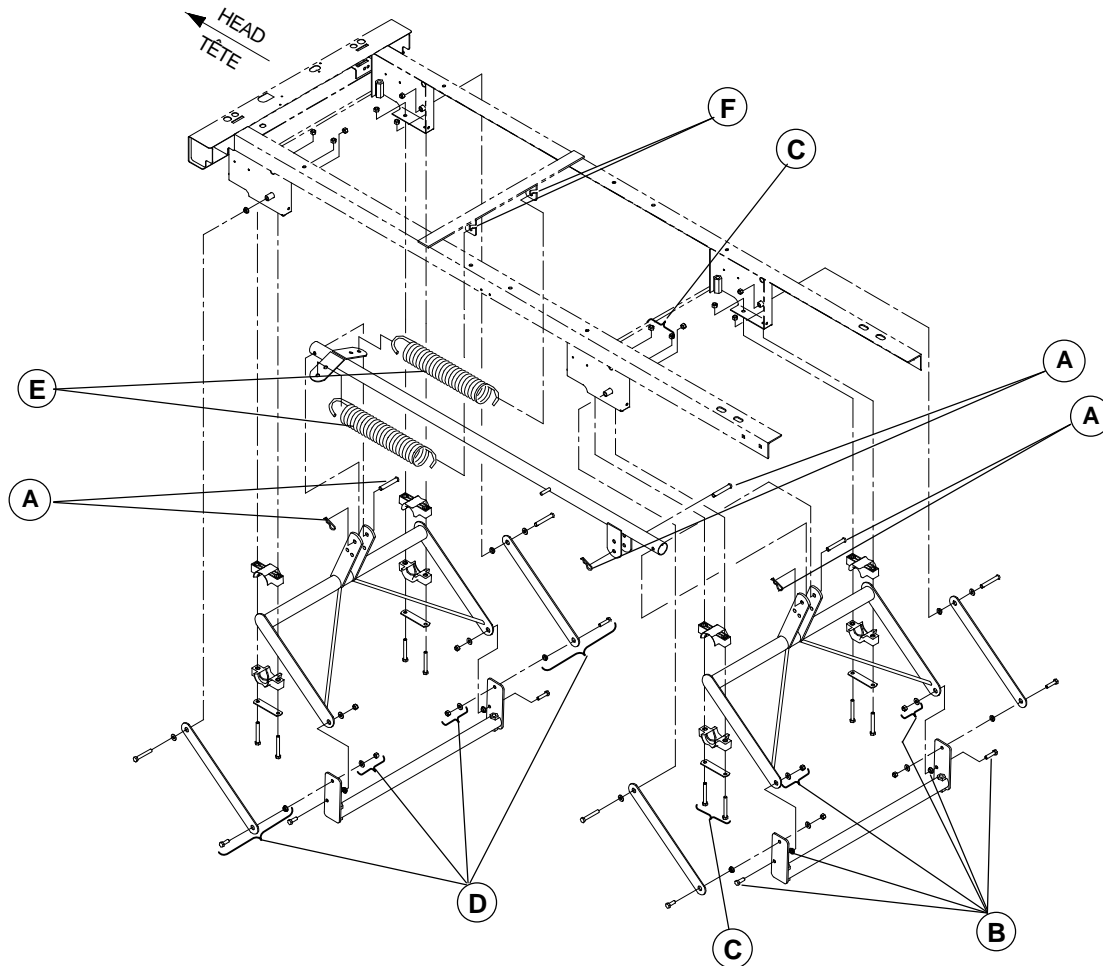

Figure 4.5
4. Remove the clevis pin/hitch pin (**A3**, fig. 4.5, page 42) hooking the actuator tube to the Hi-Lo connecting tube.
Unless otherwise stated, all the following replacement procedures (4.5.1 to 4.5.3) will refer to figure 4.5 above.